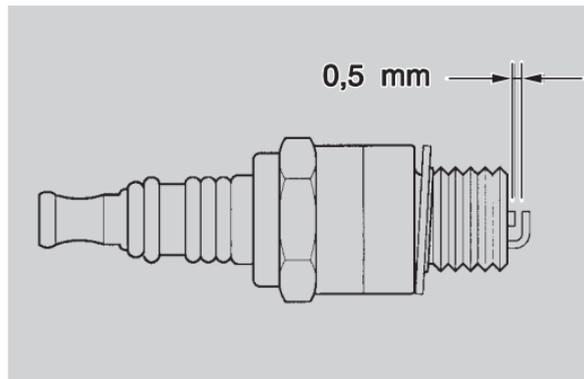

Fig. 50
SPARK PLUG (Fig. 50)
- Check the spark plug gap (Fig. 50) with a thickness gauge. The gap must be about **0,5 mm**; if necessary adjust it, carefully bending the earth electrode.